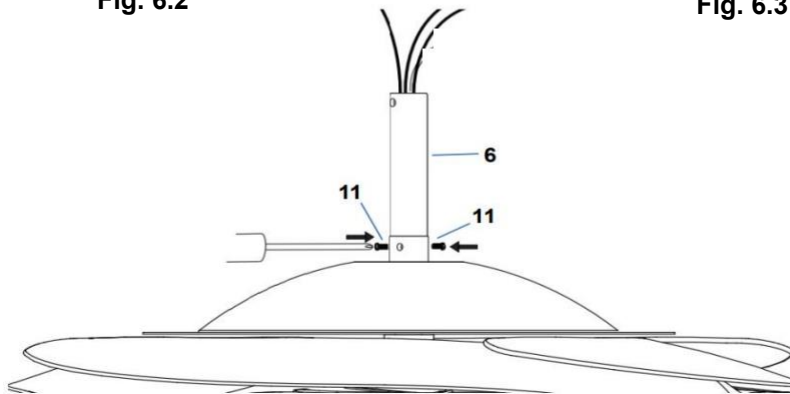

Fig. 6.4
5. Secure the down rod (6) by tightening the set screws (11). (Fig. 6.4)